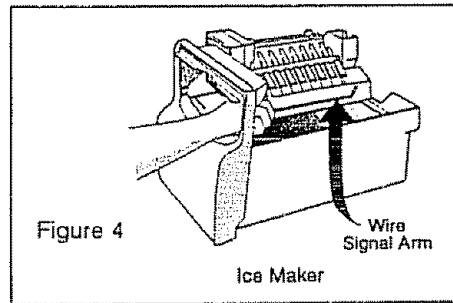

Figure 4
8. To begin ice production, lower the Wire Signal Arm to the "down" or "ON" position (Figure 4)